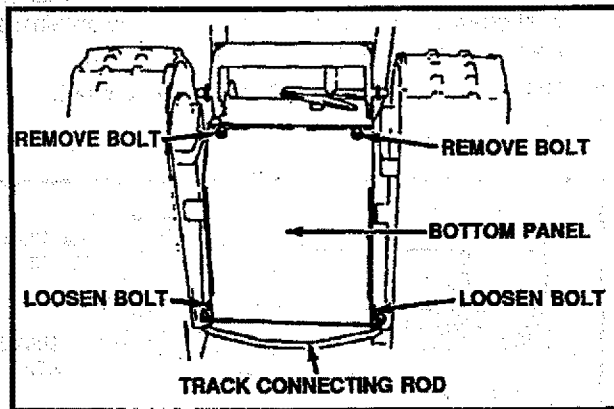

FIG. 34
- Remove the bottom panel (See Fig. 34).